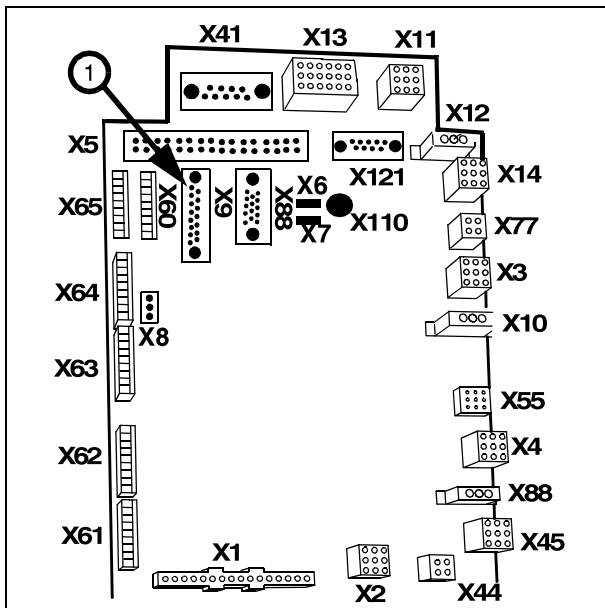

Fig. 6:
- Plug the control console cable to board D160.X9 (1/Fig. 6 / p. 17) and secure with the connector latching device.